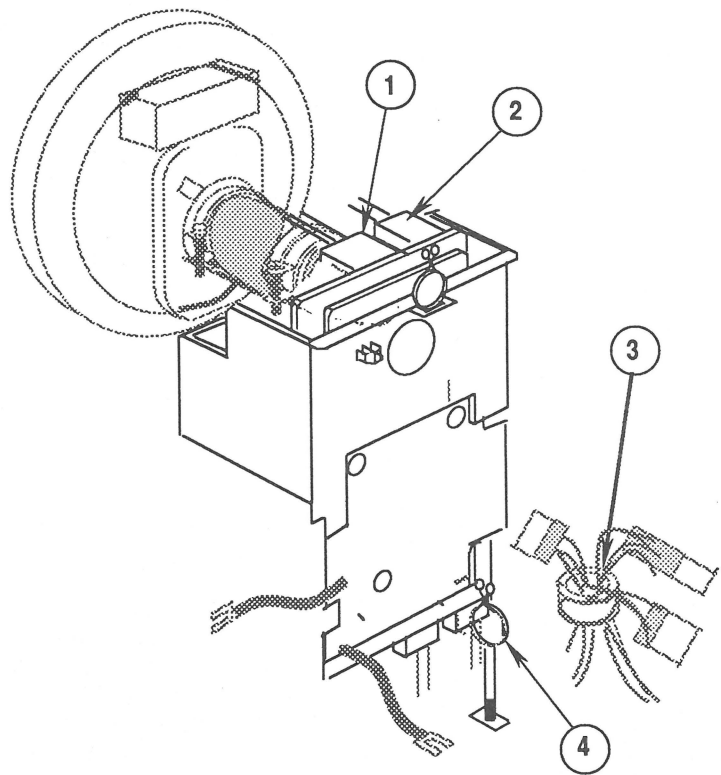

FIGURE 34
- **F** connector, from the main deflection board (Figure 34, #1)
- **K** connector, from the video board (Figure 34, #2)
7. Replace the ferrite ring (Figure 34, #3) and the connector wires in the cable clamp (Figure 34, #4).